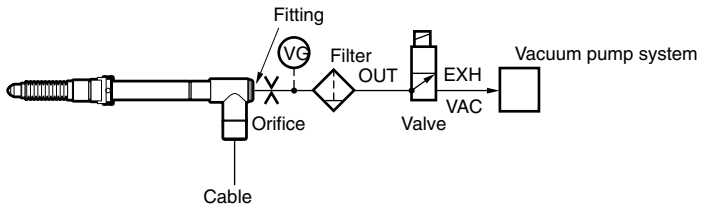

Fig.1 Air-pass system
- In operating the probe DG805FLM/DG805FLE, DG810FLM/DG810FLE with a vacuum pump, use such an air-pass system as shown in Fig. 1. The optimum vacuum rate is 40 to 66.7 kPa. Further, put such an orifice as shown in Fig. 2 on a tube from the air lifter connector to control the air suction and discharge speed. The measuring feeler is lifted at the air discharge to the vacuum pump.